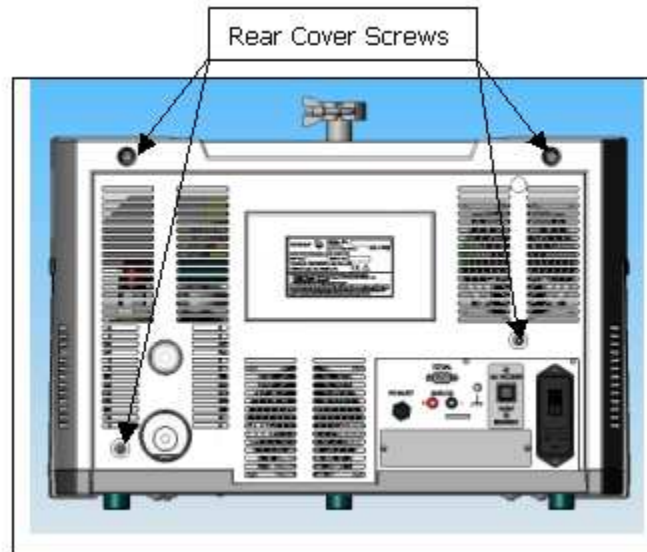

Figure 1: Rear Cover Screws
3. Using an extended length M5 Allen wrench, remove the four screws holding the rear plastic cover (Figure 1: Rear Cover Screws) and detach the rear plastic cover from the unit.